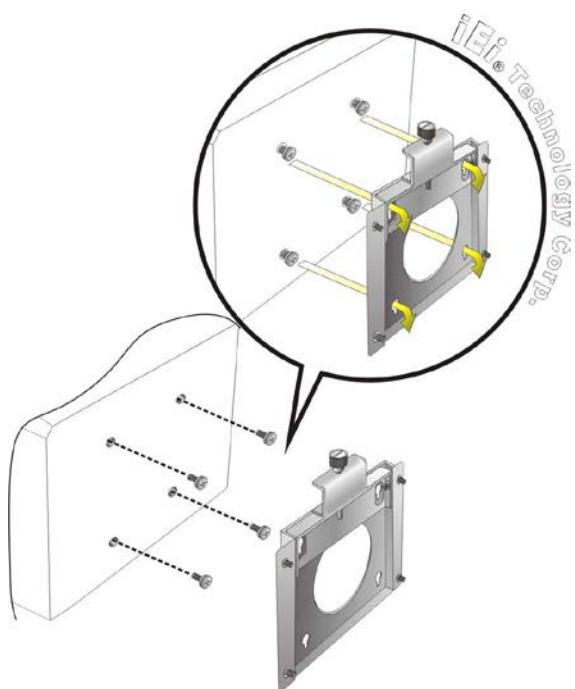

Figure 3-10: Chassis Support Screws
Step 6: Insert the four monitor mounting screws provided in the wall mount kit into the four screw holes on the real panel of the flat bezel panel PC and tighten until the screw shank is secured against the rear panel (**Figure 3-10**).
Step 8: Carefully insert the screws through the holes and gently pull the monitor downwards until the monitor rests securely in the slotted holes (**Figure 3-10**). Ensure that all four of the mounting screws fit snugly into their respective slotted holes.